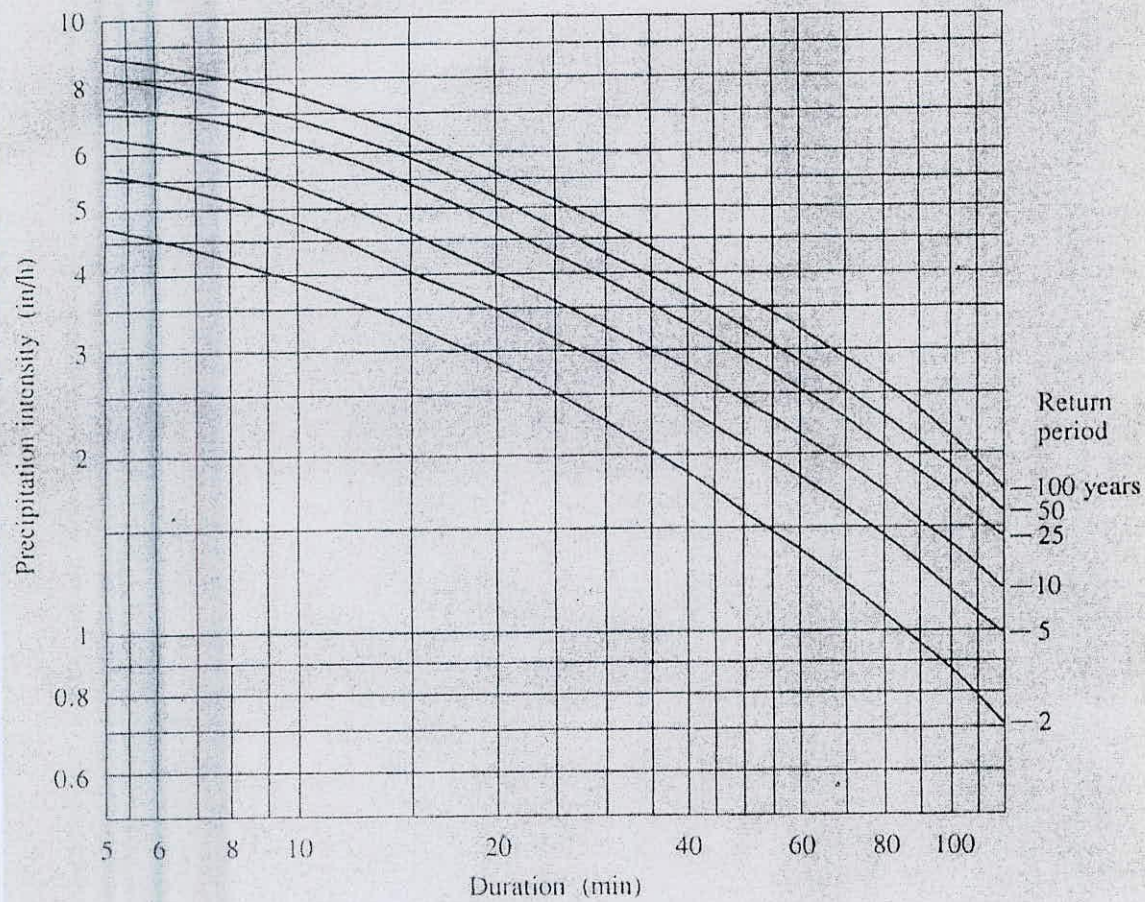

Fig. 1: Intensity-Duration-Frequency (IDF) curves for Q. No. 2(c)
- (c) The design precipitation intensity for a storm with a T-year return period with slope of 0.005 and maximum length of travel of water of 1000 m for the catchment is 3.8 in/hr. Estimate the **design return period** (T). Also estimate the **design precipitation volume** (m³). Find out the **design peak discharge** (in m³/s) using rational method for the catchment. The area of the catchment is 2 km² and runoff coefficient is 0.5. Use the IDF curves (Fig. 1) and Kirpich formula for your estimation. (15)
1. (a) What are the basic differences between Ultimate Strength Design (USD) and Working Stress Design (WSD) method? (8)
(b) A schematic floor plan of a residential building is shown in Figure 1. The slab is 6 in. thick and floor to floor height is 10 ft. Preliminary sizing of a typical floor indicates that the beam cross section will be 20 in. deep by 12 in. wide and the column cross section will be 14 in. by 14 in. In addition to the live load the floor supports floor finish and partition wall weighing 25 psf and 90 psf respectively. The thickness of partition wall directly resting on beam is 5 in. (27)